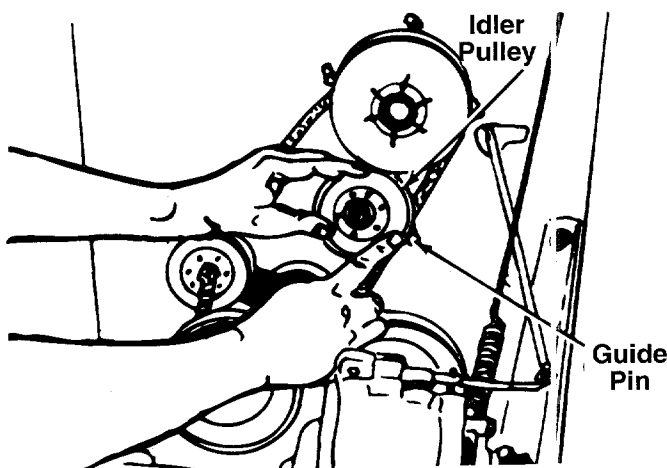

FIGURE 37.
11. When sliding the idler pulley on the idler bracket, be certain the belt is between the pulley and guide pin. See figure 37.